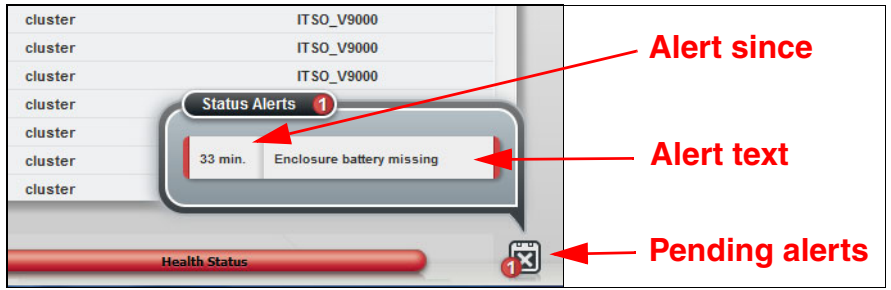

Figure 8-43 Status Alerts
When the system administrator logs in to the IBM FlashSystem V9000 GUI, a Status Alerts window opens in the lower-right corner. Hover over the Status Alerts icon (X) to see the unresolved alerts (Figure 8-43 on page 347). Information also indicates approximately how long the alert has existed (for example 33 minutes).